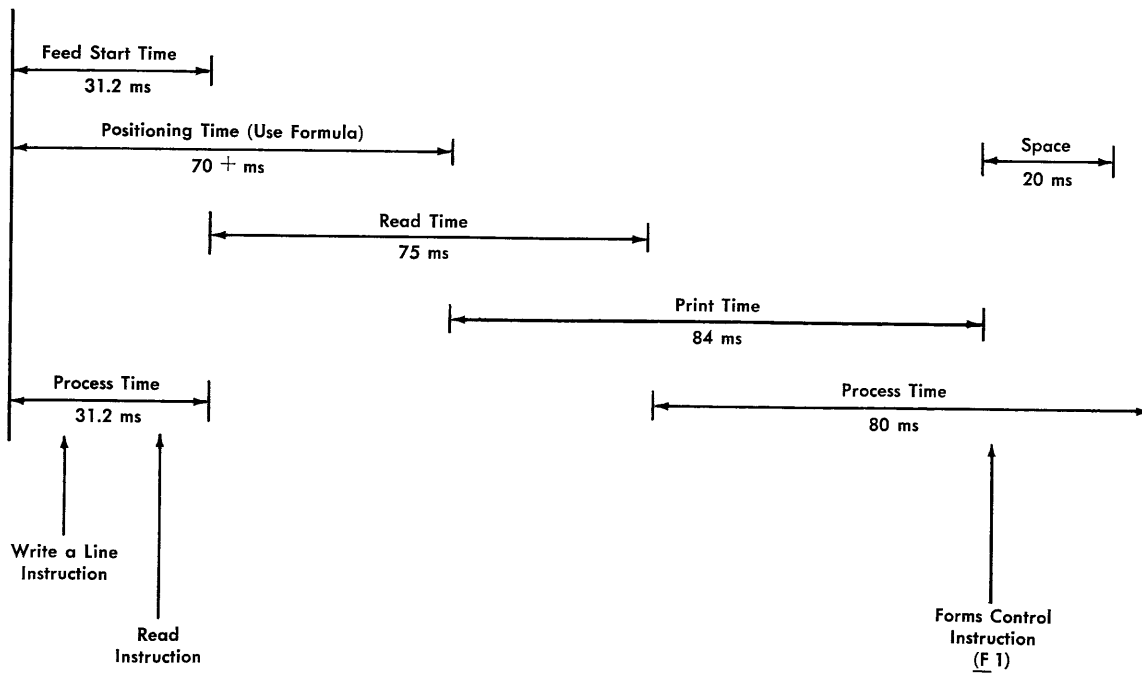

Figure 19. Print and Read Timing Chart, IBM 1404 (with Print Storage)
1. the read instruction (1 0) must follow F 1 by no more than 31.2 ms (Figure 19). Note that this is true with or without print storage, because printing is not involved with the F 1 instruction.